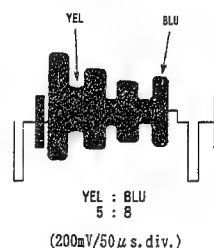

Fig. 2-19
(3) Matrix Adjustment (Fig. 2-19)